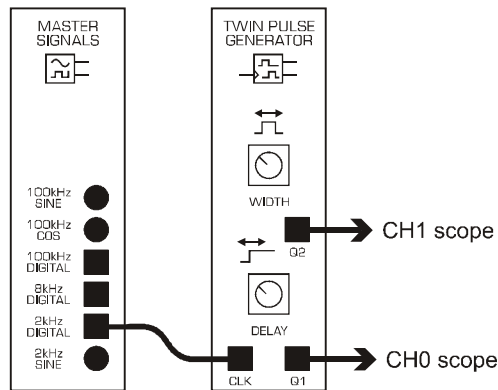

Figure 23: "adjust_TPG" wiring diagram
1. Use patching cords to wire up DATEx blocks according to the wiring diagram in Figure 23.